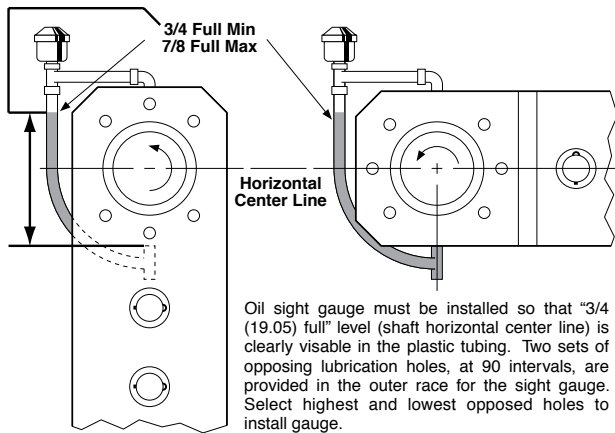

Figure 4
9. Install oil sight gauge attachment. Follow instructions in (Figure 4).
Install breather in highest position after Holdback installation is complete. Follow instructions in (Figure 4).